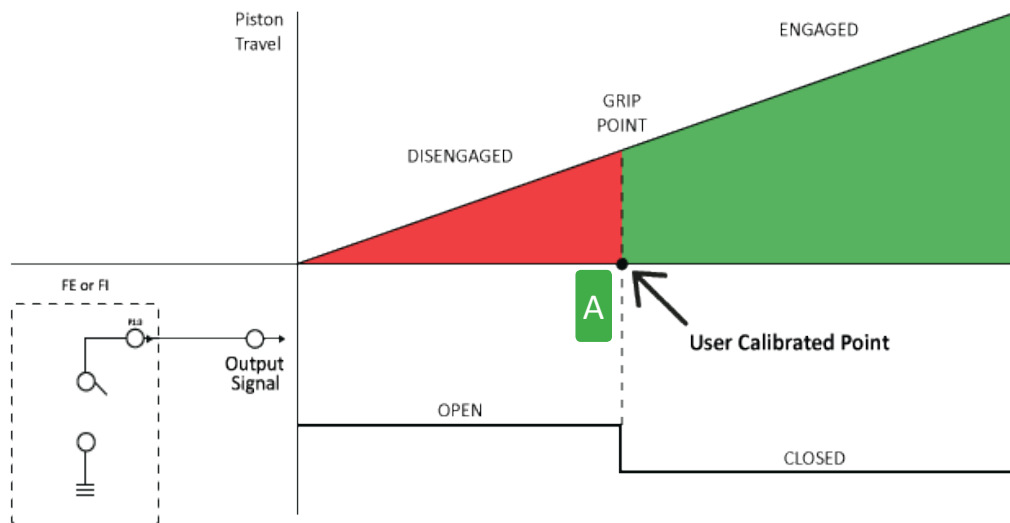

Figure 12. Single Point Calibration Graph
3. Apply 8-24V to pin #2 and hold for 2 seconds to define point A (Refer to Figure 12) - Output signal begins “flashing” (alternating between open and closed states) to signify the user has entered calibration mode